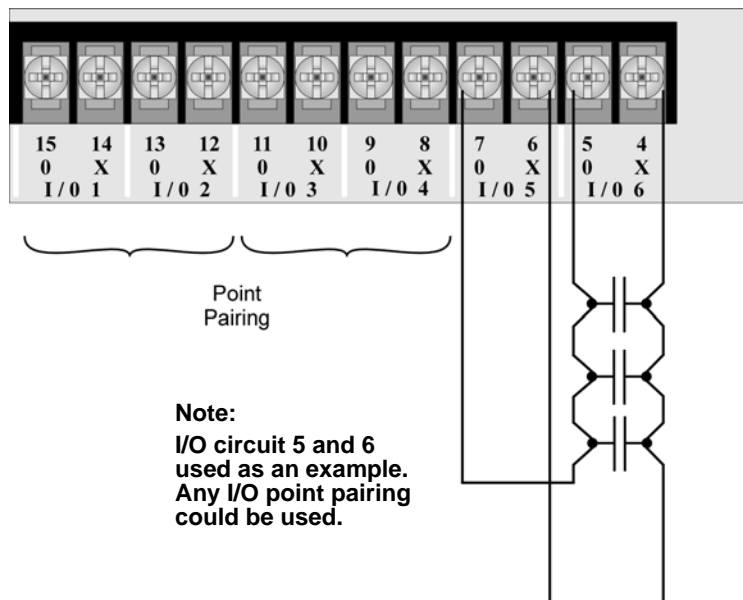

Figure 3.11 Class A initiating Switches
1. Wire the Class A switch as shown in Figure 3.11.
**NOTE:** In programming any point that uses multiple I/O circuits are always referred to as the lowest I/O circuit number used. For example, Figure 3.11 uses both I/O circuit 5 and 6, so in programming it would be referred to as point 5